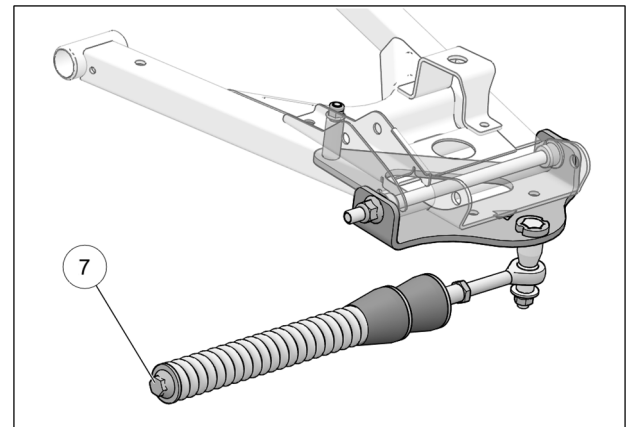

Fig. 12
11. Verify that spring assembly bolt (7) is tightened to the recommended torque specification:  $75 \text{ N}\cdot\text{m}$  [ $55 \text{ lb}\cdot\text{ft}$ ]. Refer to Fig. 12